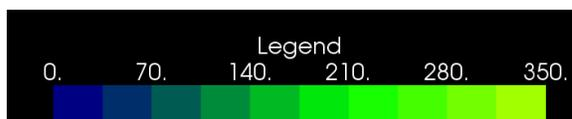

Figure 2.5. A legend with title text and labels
- *Visible*: Select "Yes" to display or "No" to hide the legend of the contour levels. Figure 2.5 shows an example of a legend with 6 labels.